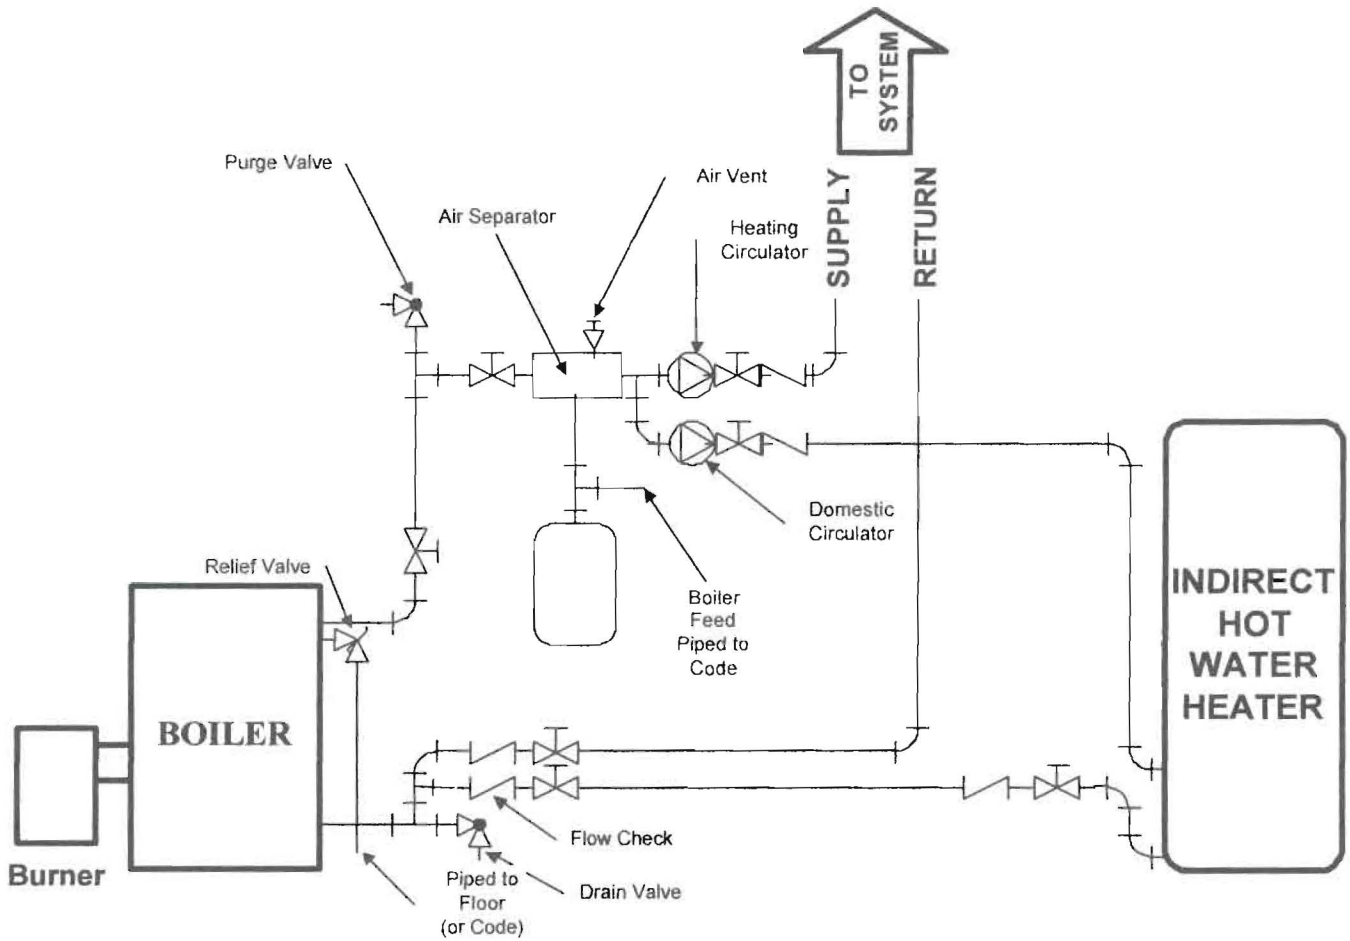
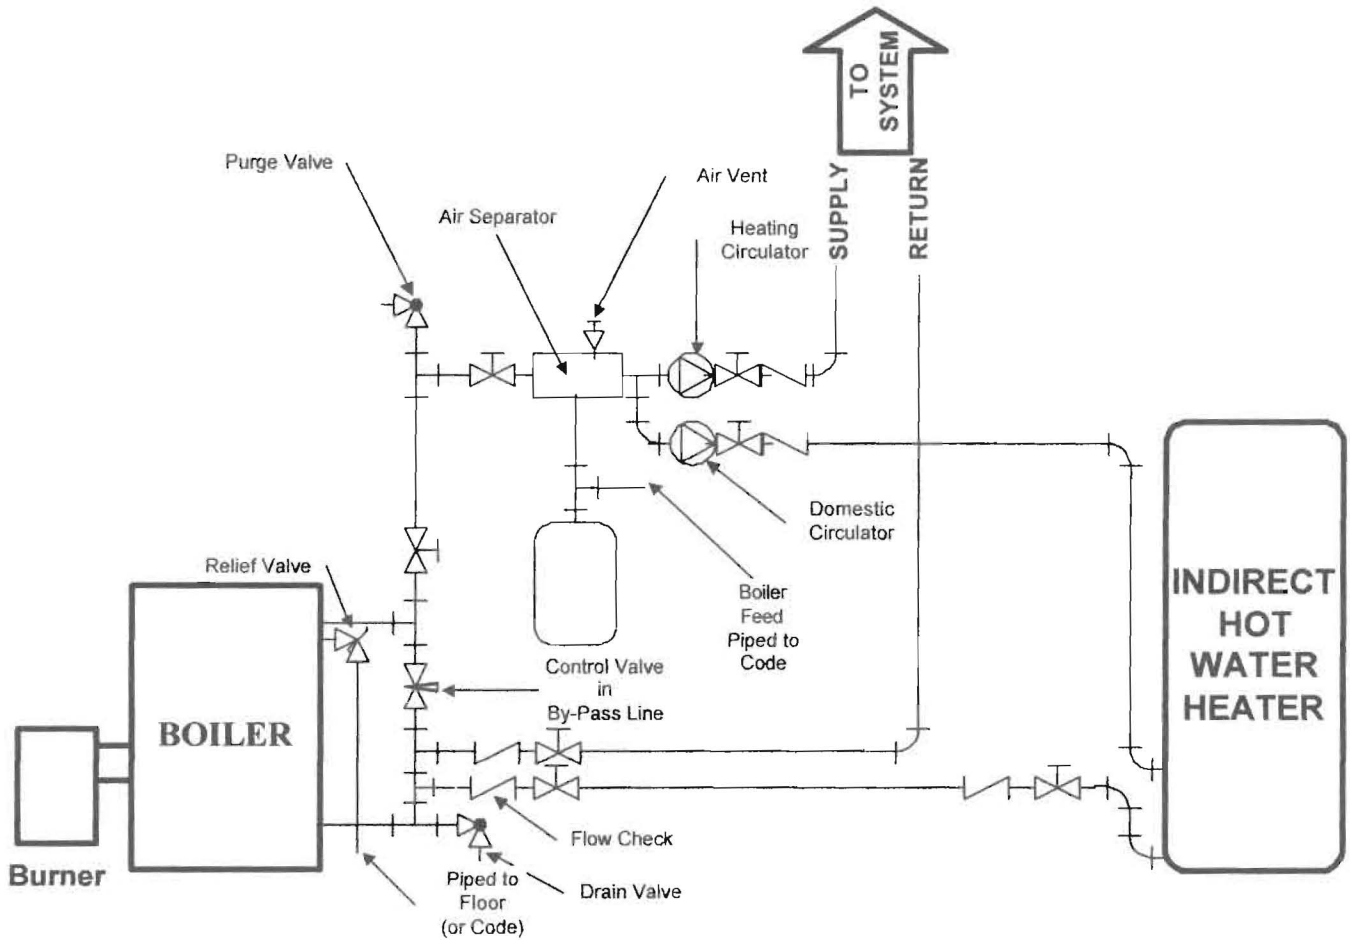
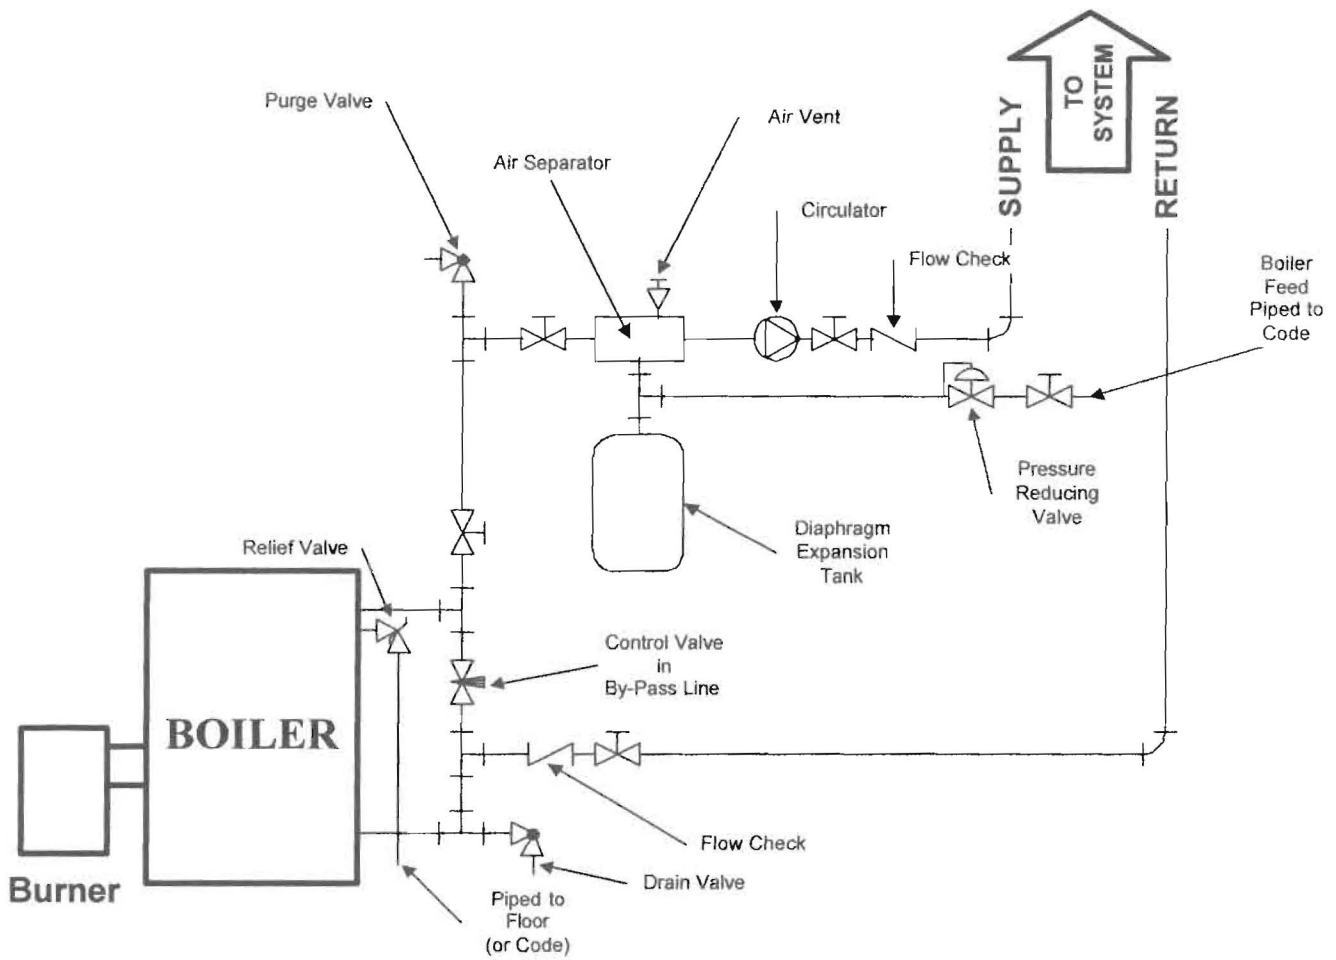
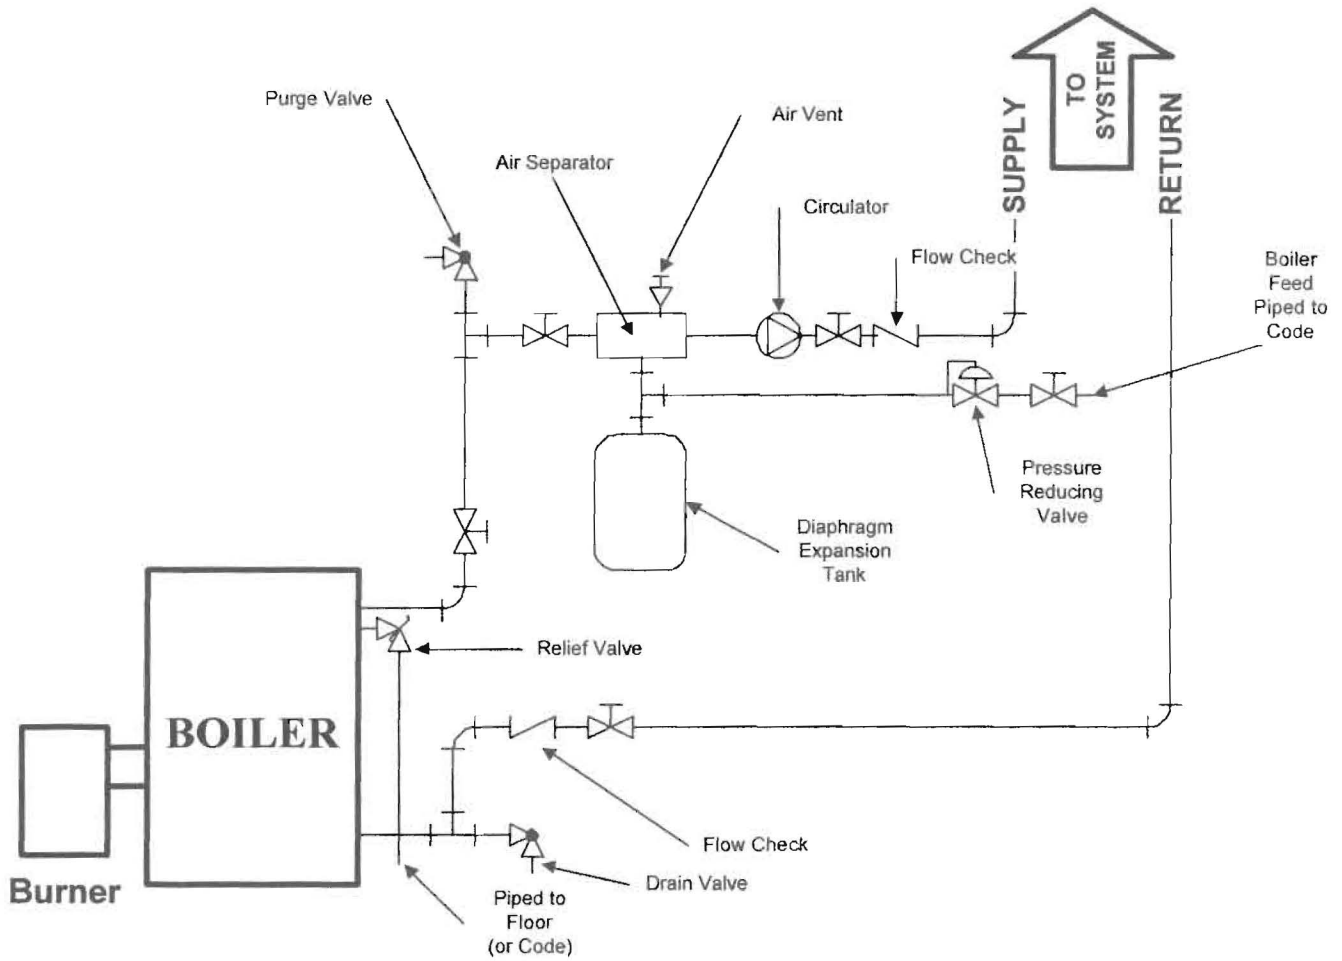

Figure 6
Figure 5
Figure 4
Figure 3
Figure 6 shows a typical installation with domestic hot water supplied by an indirect heater and with no by-pass loop installed.
Figure 5 shows a typical installation with domestic hot water supplied by an indirect heater and with a by-pass loop installed.
Figure 4 shows a typical installation with no domestic hot water and with a by-pass loop installed. The control valve should be either a needle or throttling valve.
Figure 3 shows a typical installation with no domestic hot water and no by-pass loop installed.
8. Recommended location of circulator, expansion tank, relief valve and other trim is shown in **Figure 3, Figure 4, Figure 5, and Figure 6.**